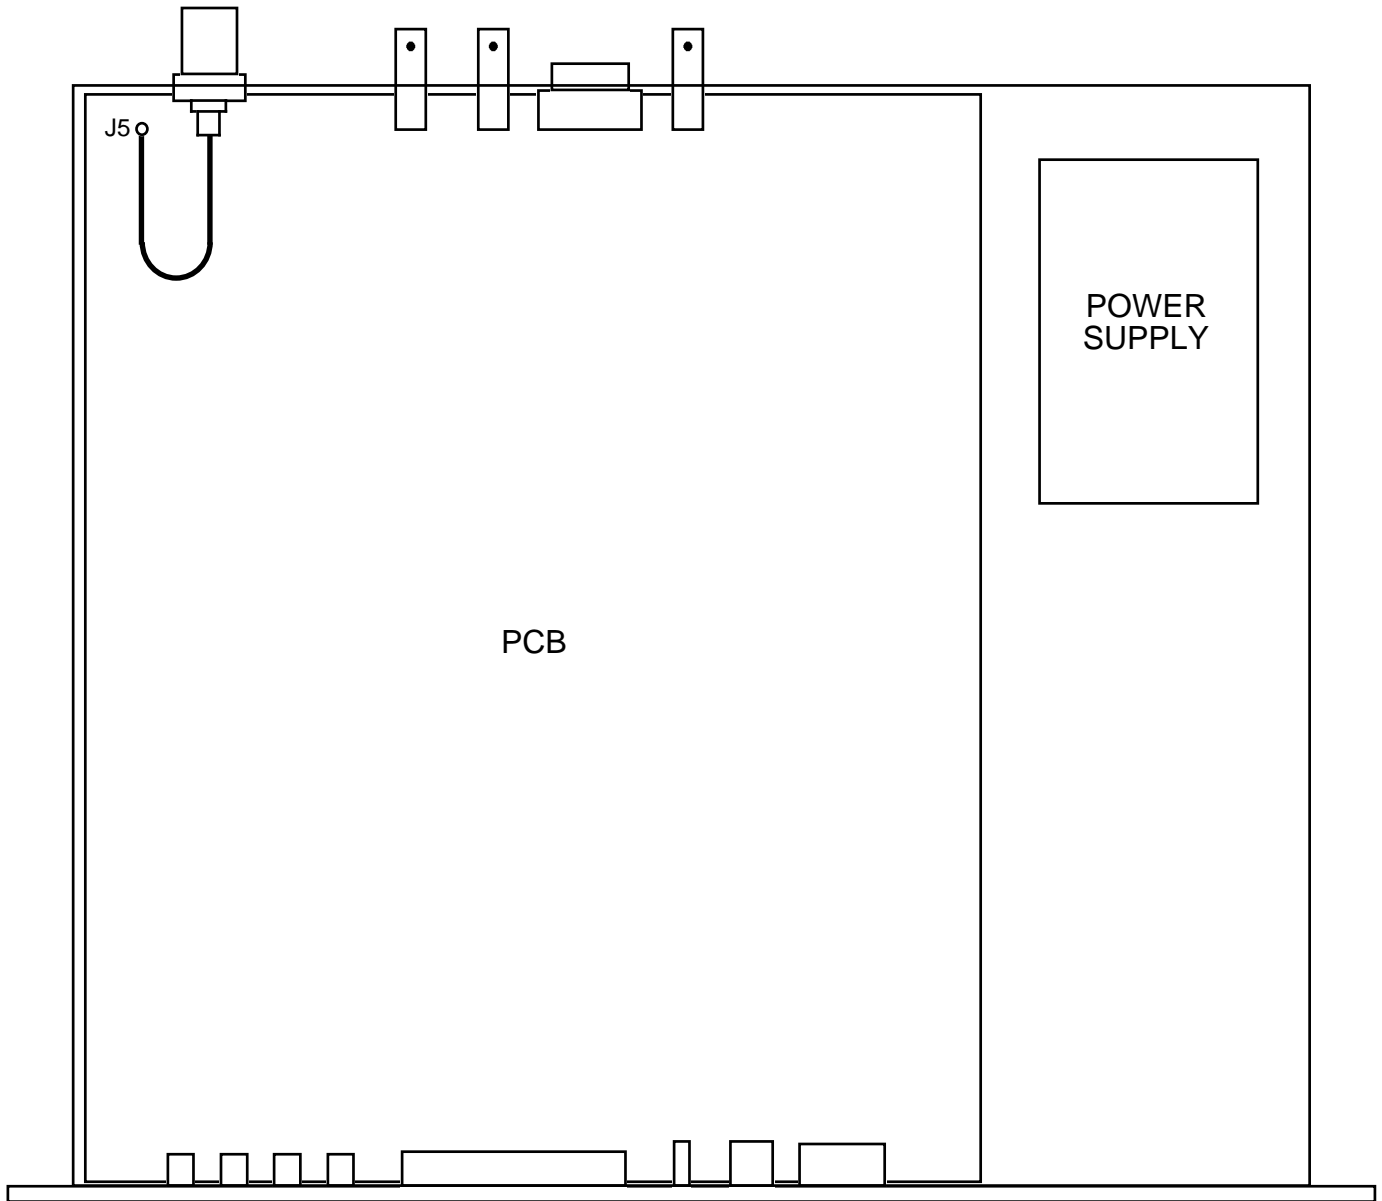

FIGURE 2.1 2015-60 Mechanical Assembly
2.1 Mechanical - The 2015-60 consists of one RF/Controller PCB which is housed in a 1 RU (1 3/4 inch high) by 16 inch deep chassis. A switching, ± 12 , +24, +5 VDC power supply provides power for the assembly. The 2015-60 can be secured to a rack using the 4 holes on the front panel. Figure 2.1 shows how the 2015-60 is assembled.